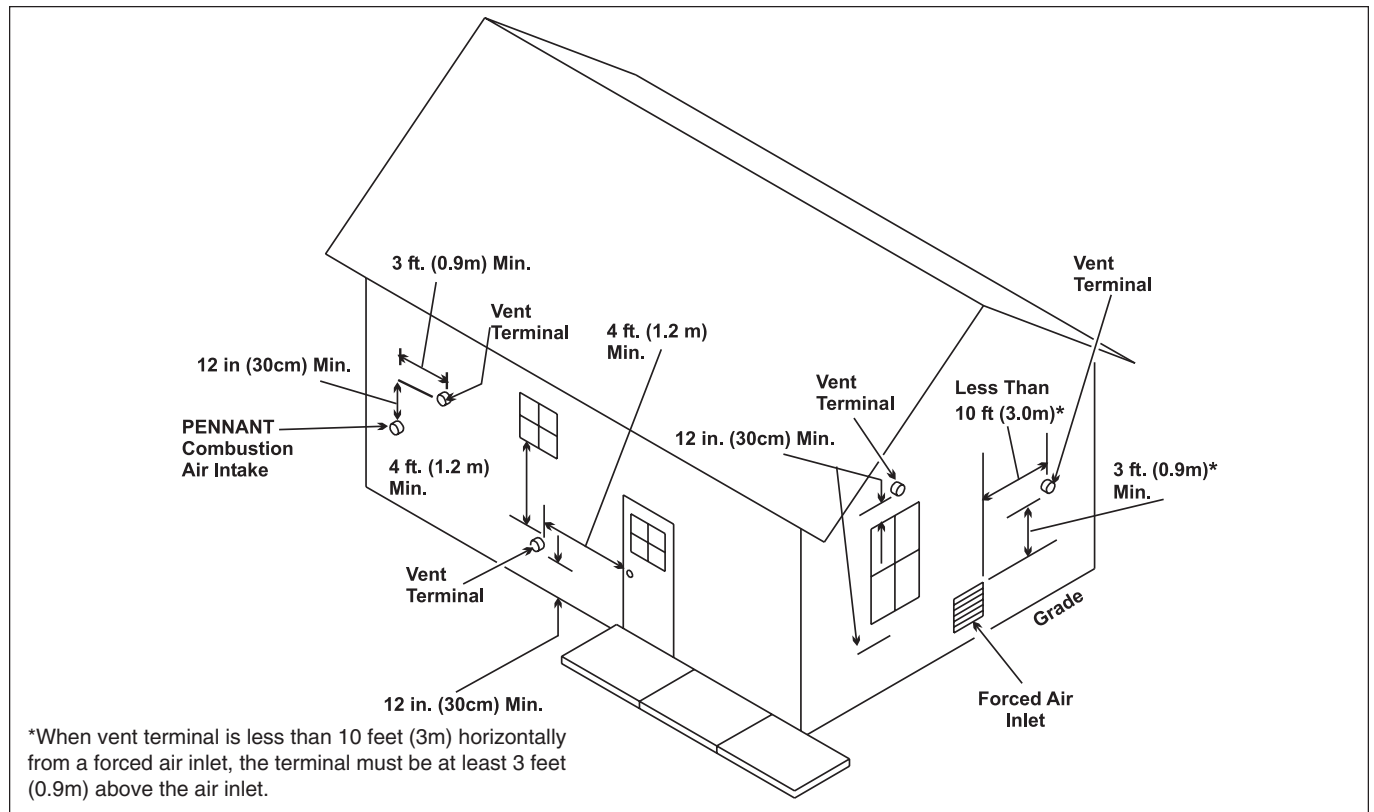

Figure 3. Combustion Air and Vent Through Side Wall.
The side wall vent hood (listed in Table 1) must be used when the heater is vented through a side wall. It provides a means of installing vent piping through the building wall, and must be located in accordance with ANSI Z223.1/NFPA 54 and applicable local codes. In Canada the installation must be in accordance with CAN/CGA B149.1 or .2 and local applicable codes (see Figure 3). Consider the following when installing the terminal:
4. If the PowerMax is side-wall vented to the same wall, locate the vent terminal at least 3 feet (0.9m) horizontally from the combustion air terminal, and locate the vent terminal at least 1 foot (0.3m) above the combustion air terminal (see Figure 3).